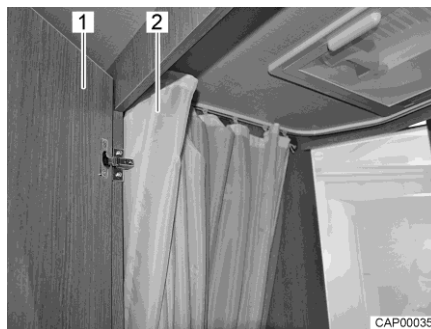
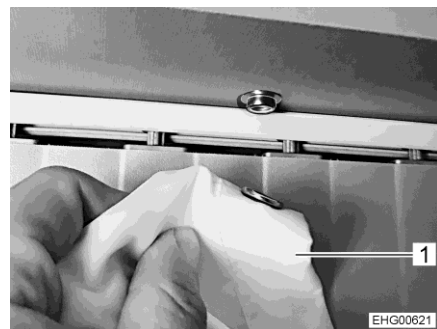

Fig. 104 Toilet compartment with shower
Fig. 105 Shower curtain with snap fasteners
- For showering, close the door (Fig. 104,1) and completely close the shower curtain (Fig. 104,2 and Fig. 105,1) or close it with the snap fasteners so that all walls are protected.